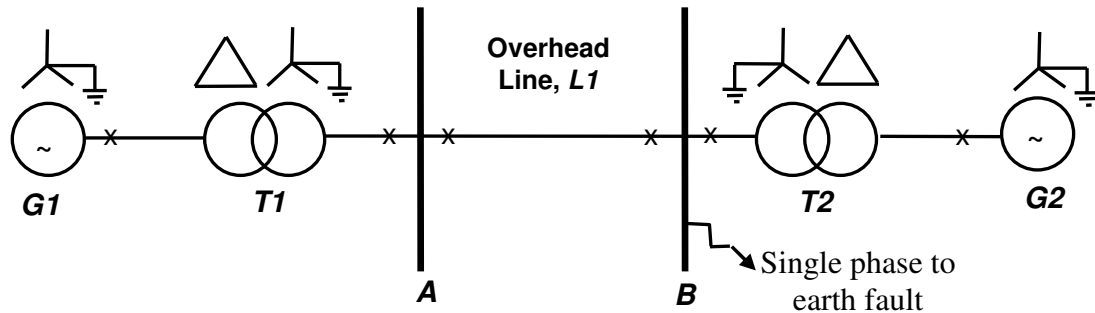

Figure 4.1 Line diagram of Power System
Figure 4.1 shows the single-line diagram of a power system comprising two 132kV busbars, *A* and *B*, connected together by an overhead transmission line. Each busbar is supplied from a generator via a step-up transformer. The star points of generators *G1* and *G2* and transformers *T1* and *T2* are all solidly earthed. A single phase to earth fault occurs on busbar *B*.
- Calculate all the per-unit reactances of the system using a reference base of 90MVA. (4)
- Draw the positive, negative and zero sequence diagrams for the system. (6)
- Determine the total fault current when a single phase to earth fault occurs at busbar B. (4)
- Hence calculate the current which flows in each phase of the 132kV overhead transmission line during fault conditions. (5)
- The power system is upgraded and the star point of generator *G1* is now connected to ground through an earthing reactor (instead of being solidly earthed) and generator *G2* is replaced by a machine having delta connected windings (the MVA rating, voltage rating and per-unit reactances remain the same). Comment on the effect this would have on the level of fault current for the system and type of fault shown in figure 4.1. Briefly justify your answer. (1)